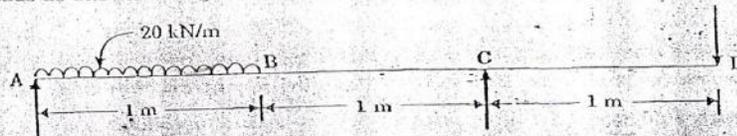

Figure 2-1
7. (a) Draw the shear force and bending moment diagrams for the beam carrying loads as shown in Figure 2-1, and locate the point of contraflexure. 7. 15